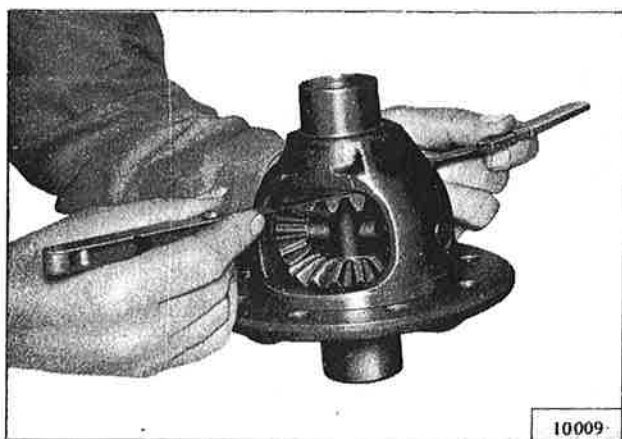

FIG. 263—CHECKING SIDE GEAR CLEARANCE
a. With the differential positioned as shown in Fig. 263, bounce the differential lightly on a flat surface so the differential gears settle.